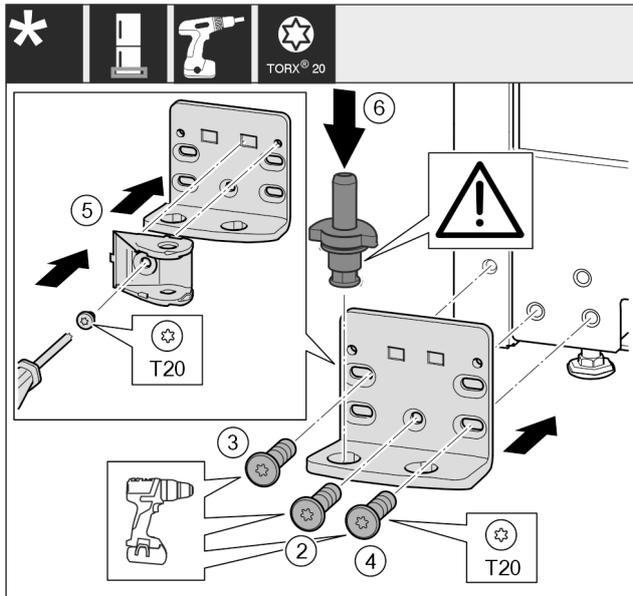

Fig. 49 *
- ▶ Place the swap bearing block on the other side and use a screwdriver to screw it on. Start with the screw Fig. 49 (2) at the bottom in the middle.*
- ▶ Tighten screw Fig. 49 (3) and screw Fig. 49 (4).*
- ▶ Turn the closing damper connection Fig. 49 (5) by 180°. Use screwdriver to screw it onto the other side of the swap bearing block.*
- ▶ Insert the bearing bolt Fig. 49 (6) completely. Ensure that the latching cam is pointing towards the rear.*